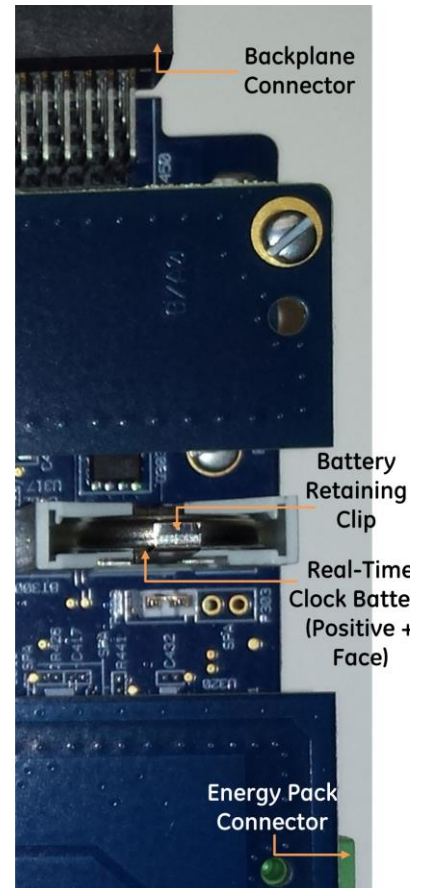

Figure 3: Location and Orientation of Real-Time Clock Battery in CPE330
The CPE330 is shipped with a real time clock (RTC) battery installed (see Figure 3). There is no isolation barrier between the battery and the circuit. This battery will need to be replaced periodically.
7. Remove the sheet metal. This exposes the circuit board, connectors and coin battery shown in Figure 3.
10. Install the replacement battery so that the inscribed positive face is towards the green connector (i.e. downwards as shown in Figure 3).
Note: Battery replacement on CPE330 is different. See Figure 3.